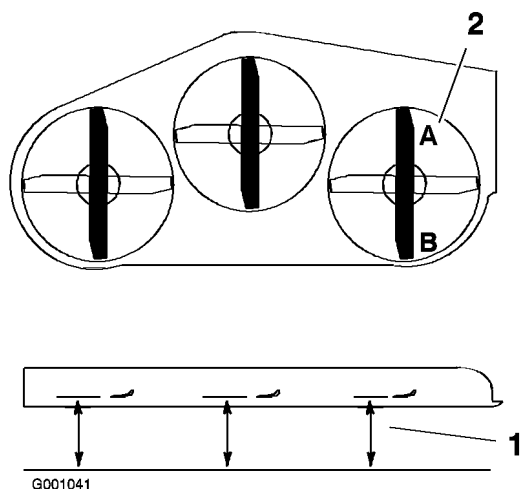

Figure 74
1. Position the right blade front-to-rear (Figure 74).
2. Measure the right blade at the **A** location, from a level surface to the cutting edge of the blade tip (Figure 74).
4. Measure the right blade at the **B** location, from a level surface to the cutting edge of the blade tip (Figure 74).
6. The mower blade should be a 1/4 to 3/8 inch (6 to 10 mm) lower at position **A** than at position **B** (Figure 74). If it is not correct, proceed to the following steps.